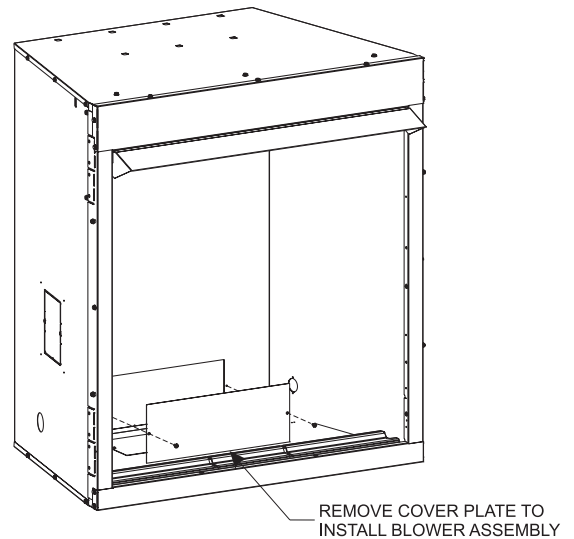

Figure 21
1. Remove cover plate. **See Figure 21.**